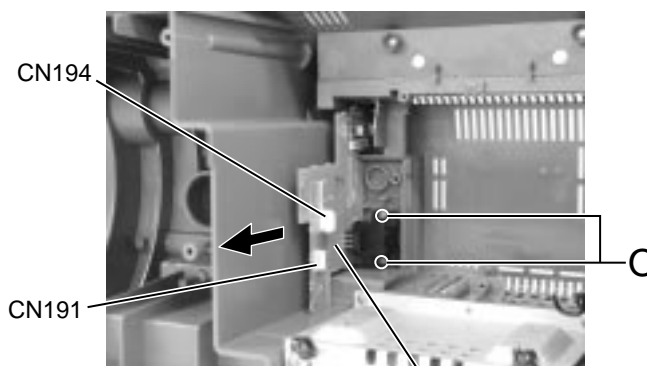

Fig.20 AC input board
■ Removing the AC input board (See Fig.20)